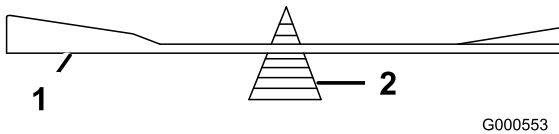

Figure 40
2. Check the balance of the blade by putting it on a blade balancer (Figure 40). If the blade stays in a horizontal position, the blade is balanced and can be used. If the blade is not balanced, repeat the sharpening procedure on the heavier side until the blade is balanced.